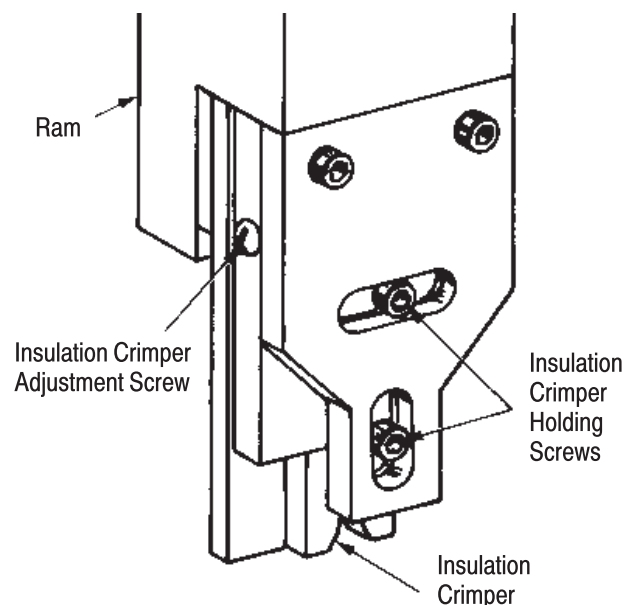

Figure 6
1. Loosen the two insulation crimper holding screws on the insulation crimper mounting plate. See Figure 6.